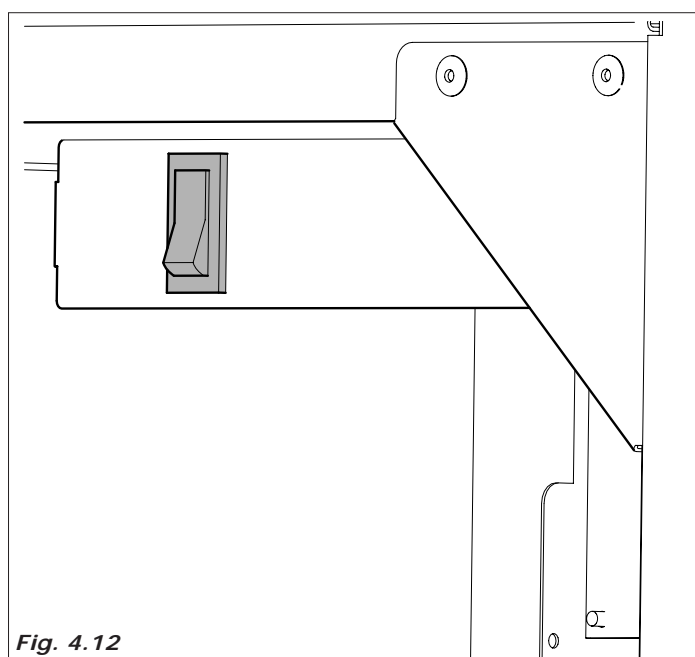

Fig. 4.12
It is possible for installation technician, to operate in this way, by inserting the special plastic key, supplied with the distributor, into the door switch and rotating it 90° (Fig.4.12).
- insert the key in the door switch (Fig.4.12)